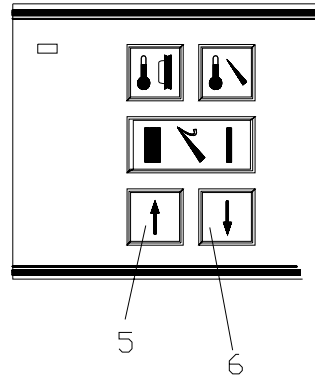

Fig. 23e
- Simultaneously press the UP and DOWN button (fig. 23e.5 and 23e.6) to reset the counter to "0".